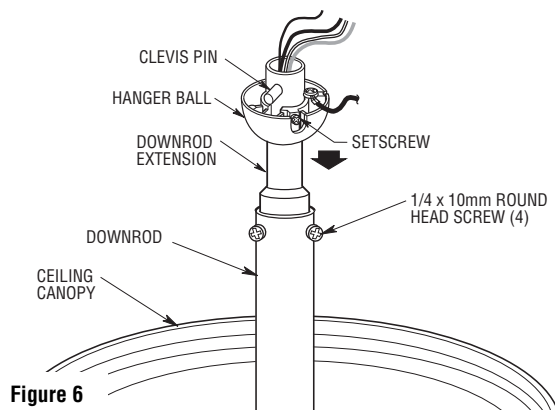

Figure 6
- 10. Route the motor lead wires and support wire through the downrod extension and the hanger ball (Figure 6). For maximum wire clearance, the support cable should be routed on one side of the clevis pin and the electrical wires on the opposite side of the pin.
- 11. Securely attach the downrod to the downrod extension/hanger ball using the four 1/4 x 10mm round head screws (supplied in the downrod assembly bag) (Figure 6). The round head screws must be fully tightened into the downrod extension. A loose downrod will result with fan assembly noise and vibration.